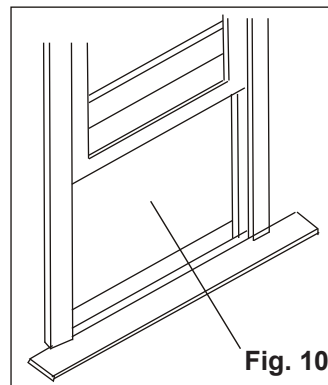

Fig. 10
1. Open window and mark center of window sill. (See Fig. 10.)